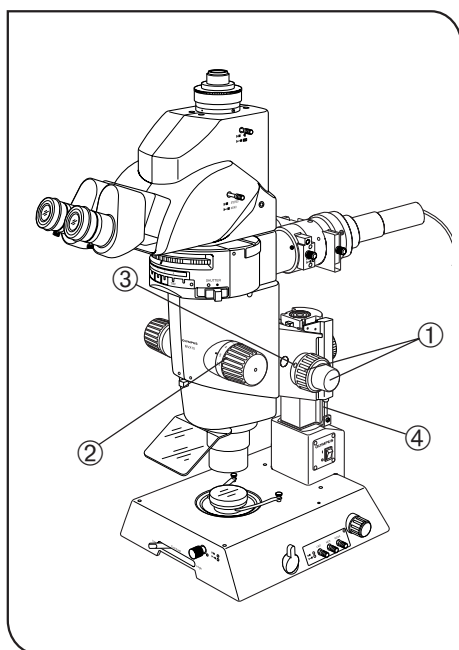

Fig. 2
6. When disposing of the microscope. Check the regulations and rules of your local government and be sure to observe them. To dispose of only the gas spring (④, Fig. 2) used in the counterbalance of the focusing assembly, follow the precautions provided with the gas spring.